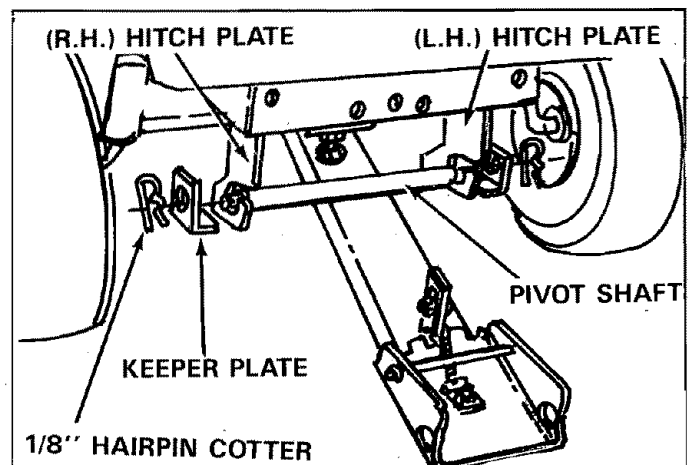

FIGURE 8
5. Assemble keeper plates over each end of pivot shaft with lip under hitch plates, (see figure 8) and secure with two 1/8" (large) hairpin cotters through small holes near each end of shaft.